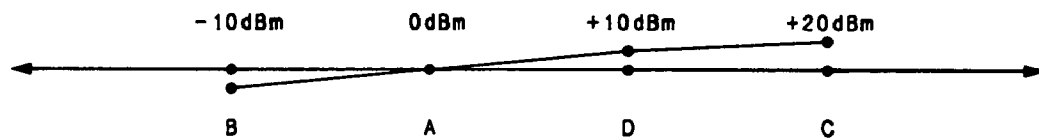

Figure 5-11. Linear Response Curve
- Set the HP 8495B programmable attenuator to 30 dB. On the HP 8350B press **RECALL** (2). On the HP 83590A, select **[POWER LEVEL]** and adjust the rotary knob for a -10.0 dBm reading on the HP 436A.
- Set the HP 8495B programmable attenuator to 10 dB. On the HP 8350B, press function **RECALL** (4). On the HP 83590A, select function **[POWER LEVEL]** and adjust the rotary knob for a +10.0 dBm reading on the HP 436A.
- Note the power level displayed on the HP 8349B. Using A4R23 (+15), adjust the level to read +10.0 dBm plus the difference noted in step 14. For example: if the initial reading for the +10 dBm point on the HP 8349B is 9.8 dB and the difference noted in step 14 is 0.2 dB, adjust it to +10.0 dB (9.8 + 0.2). If the difference from step 14 is 0.3 dBm, adjust A4R23 (+15) to read 10.3 dBm (10.0 + 0.3). This helps adjust the entire logarithmic curve for a more linear response. The curve should now resemble Figure 5-11.